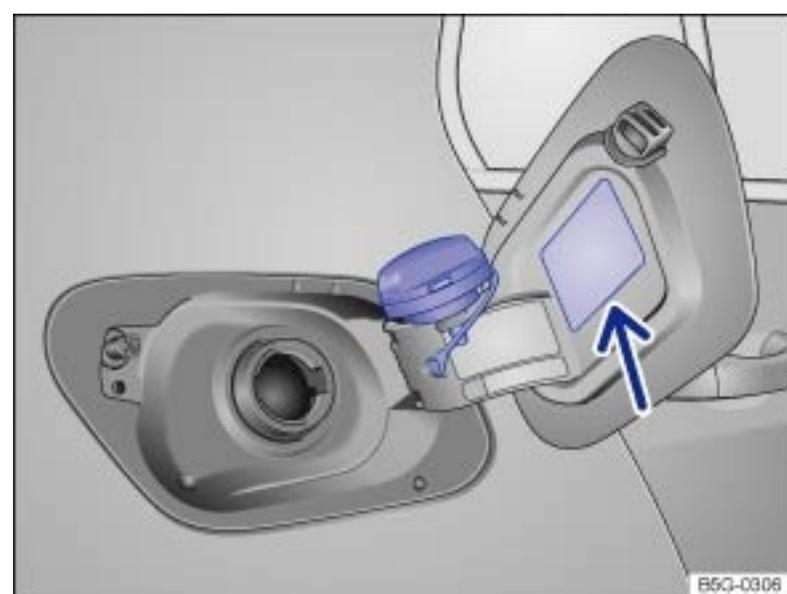

Fig. 187 Right rear side of vehicle: Fuel cap placed on the open fuel filler flap.
- ▶ Unscrew the fuel cap counterclockwise and remove. Use the slot on the fuel filler flap hinge → Fig. 187 to hold the cap while refueling.
The correct fuel grade for your vehicle → Fuel is listed on a sticker on the inside of the fuel filler flap → Fig. 187 (arrow).
The correct fuel grade for your engine is shown on a sticker located on the inside of the fuel filler flap → Fig. 187.